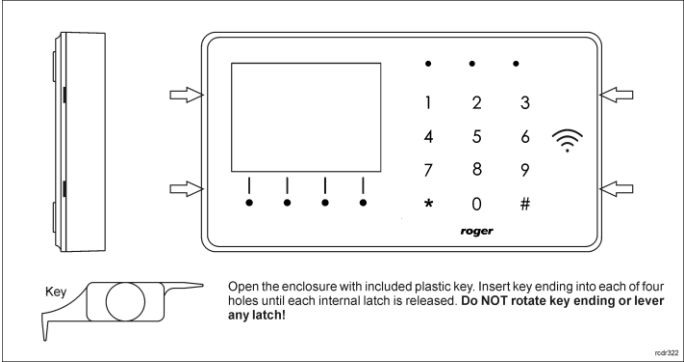

Fig. 2 Enclosure disassembly
2. Place jumper on MEM contacts (fig. 2).